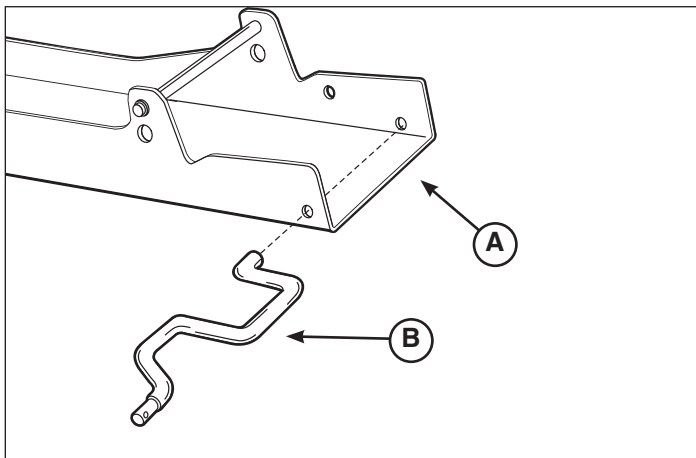

Figure 3
2. On right side of reach (A, Figure 3), install the bell crank (B) through the front holes .